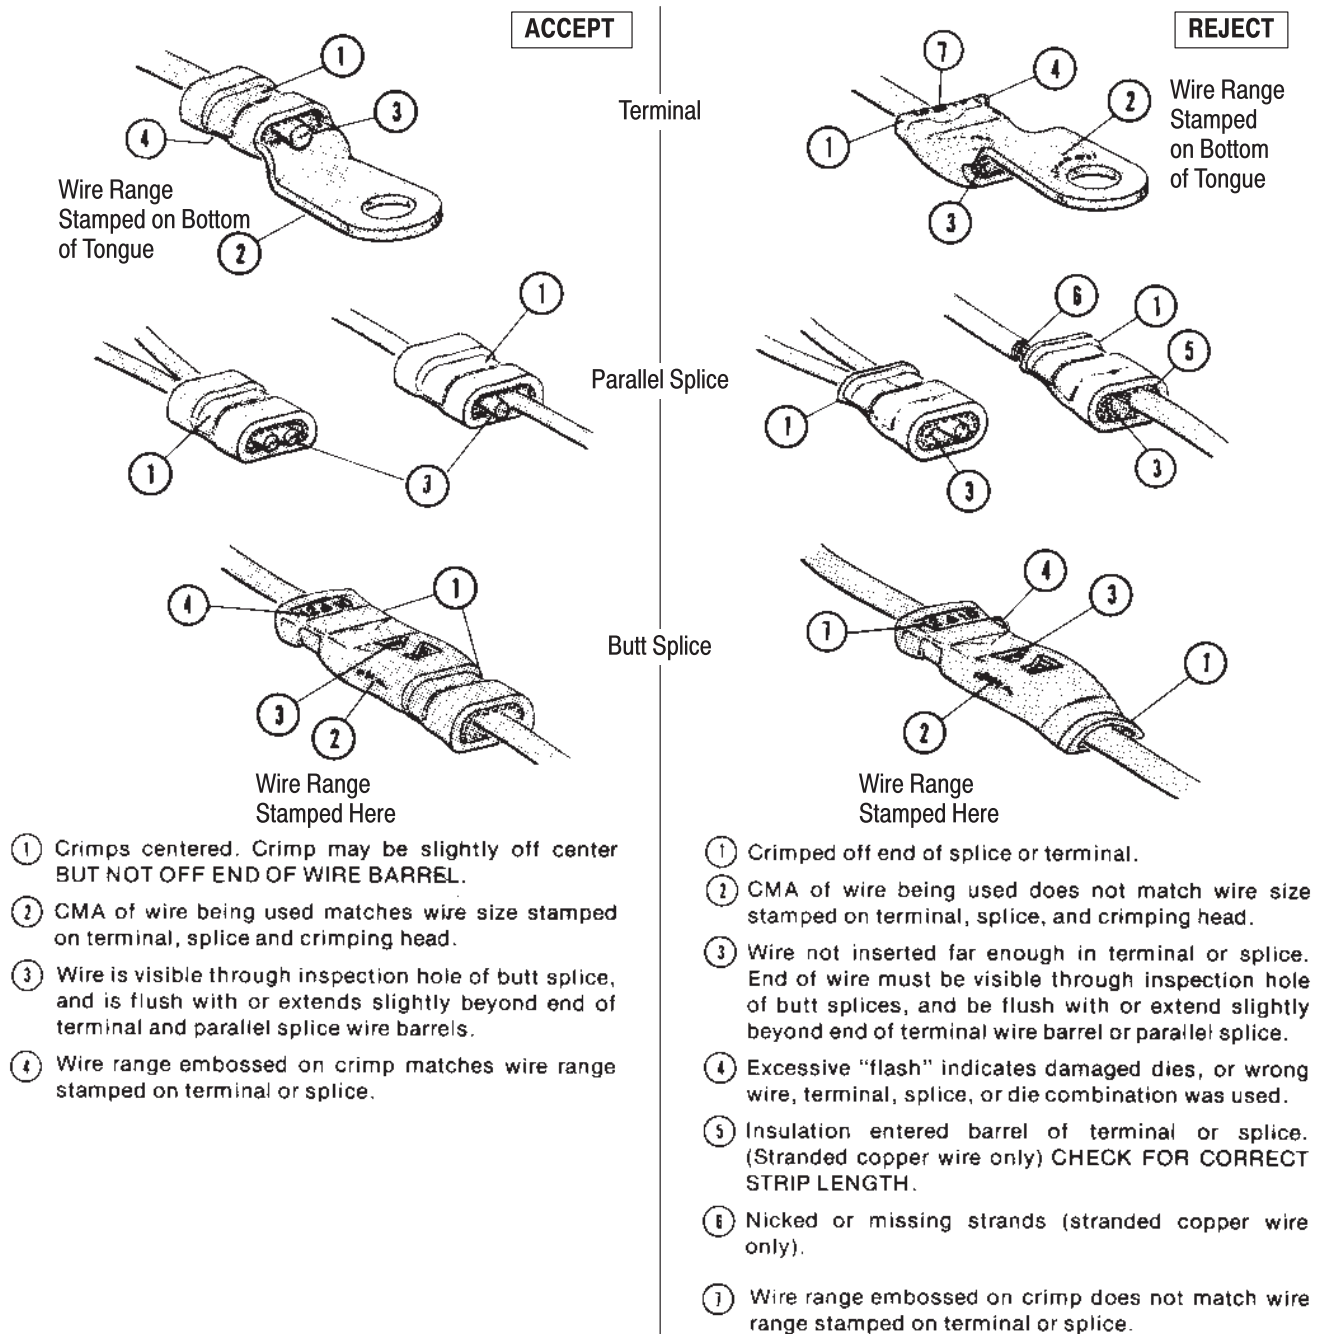

Figure 5
4. Refer to Section 3 and Figure 5 for crimp inspection.
5. To crimp other half of butt splice, remove and rotate splice 180° end over end. Reposition uncrimped half in lower jaw as described in step (1). If splice cannot be rotated, rotate tool. Insert wire and then crimp the splice.
6. Refer to Section 3 and Figure 5 for crimp inspection.
Inspect crimped terminals and splices by checking the features described in Figure 5.